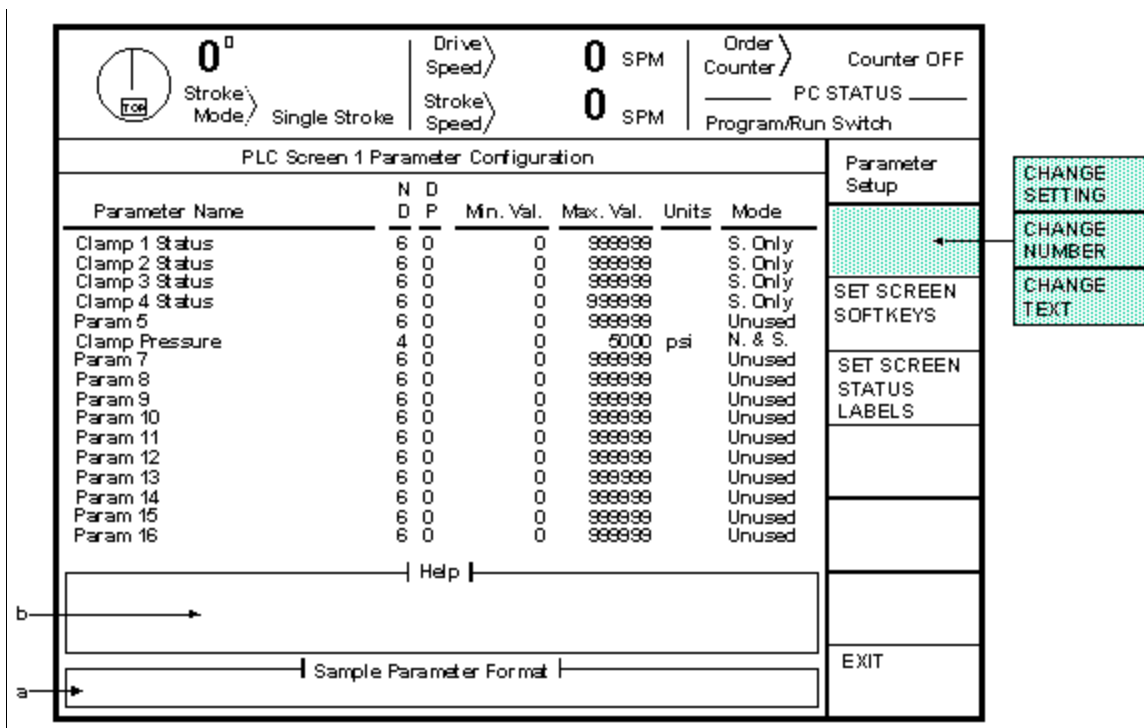

Figure 3.5: Example Parameter Configuration Screen
Up to 16 user defined parameters can be displayed on each of 4 PLC screens. These parameters must be named and configured before use. Figure 3.5 shows an example parameter configuration screen.
- Units: The units to display after the number. This can be up to 5 characters long. In the example of Figure 3.5, “Clamp Pressure” is configured with units of “psi”. Units will only be shown for numeric parameters (“Numeric Only” or “Numeric and Status”).
- Help: A help box (see “b” in Figure 3.5) will display information about the parameter the editing cursor is on as a reminder of how it is used.
- Sample Parameter Format: The sample parameter format box (see “a” in Figure 3.5) displays a line that shows how the parameter that the editing cursor is on will look in the PLC operation screen.
Notice that some screen formatting is possible by leaving “gaps” between parameters. In the example of Figure 3.5, a parameter is skipped between “Clamp 4 Status” and “Clamp Pressure”. This will leave a blank line between these two parameters on the PLC operation screen.
The main part of the screen displays the user defined parameters that were set up in the screen of Figure 3.5. In the example above, there are 4 “Status Only” parameters that indicate the state of 4 individual die clamps. In addition, there is a “Numeric Only” parameter that sets the die clamp hydraulic pressure. To change a numeric parameter, place the editing cursor on the desired parameter and enter a new number. If the new number is less than the minimum value configured for that parameter or is greater than the maximum value configured for that parameter, a message will appear explaining the condition. Otherwise, if the number is accepted, it will be sent to the PLC. Note that access to this screen must be gained by the RUN/PROG keyswitch or an access code depending on the system configuration as explained in section 2. If access codes are used, each PLC screen can be separately controlled. For instance, a die clamp screen and a rolling bolster screen can be configured. A user could be set up to have access to the die clamp parameters but not the rolling bolster parameters.